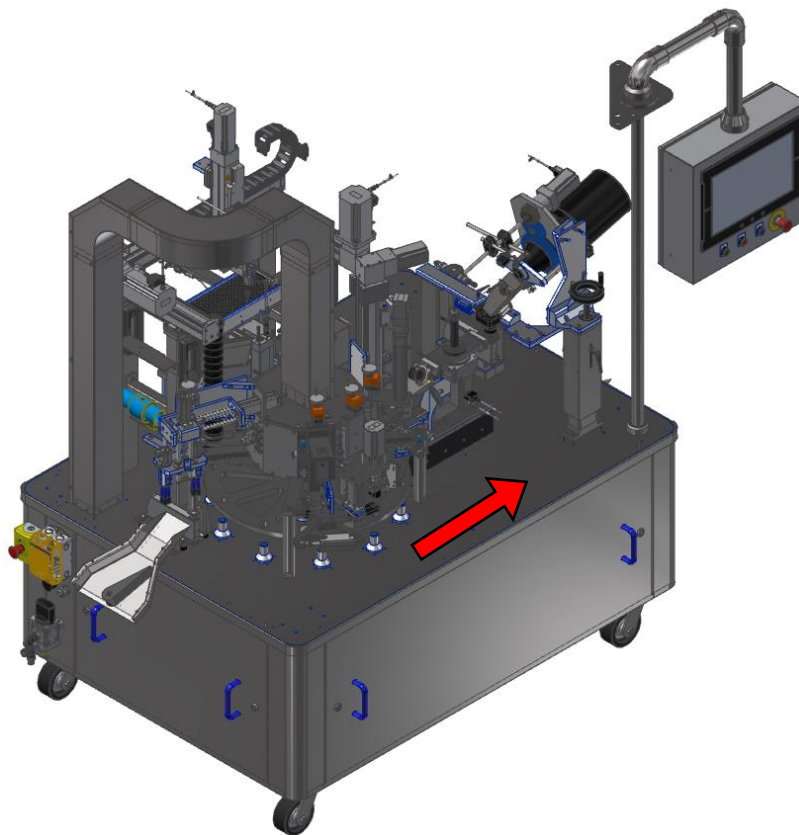

Figure 3.1: Example of direction of the pre-cleaning
- C. Use the blowgun and/or the vacuum to get rid of dust and dirt following one direction. (Example: from left to right only, as shown is figure 3.1 below with the red arrow). Start from the top to the bottom. If the blowgun is used, reduce the pressure to avoid floating particles in the machine.